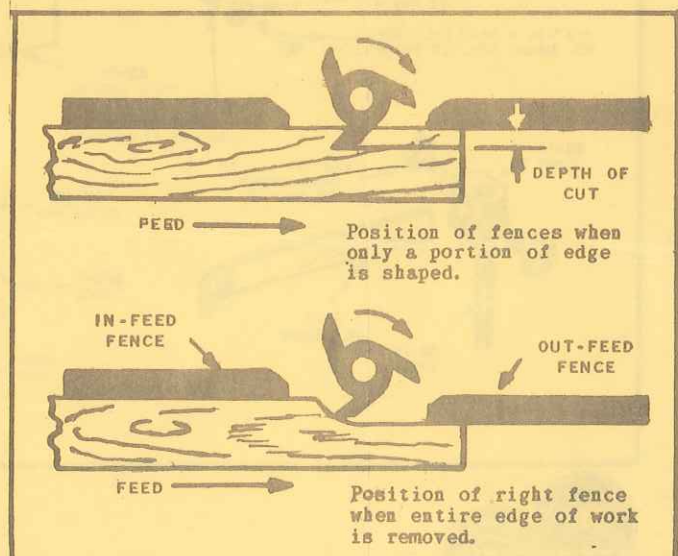

Figure 3 Diagram Shows How Shaper Fence Must Be Adjusted For Various Cuts.
edge is to be shaped, the faces of the fence must be in straight alignment - see Figure 3. (2) If edge of stock is rough, and shaping covers complete edge, the in-feed fence is set back to cut stock to finish size - the out-feed fence is lined up with the bottom of the shape on the cutter - see Figure 3. In either of the two positions move wood facings as close to cutter as possible.